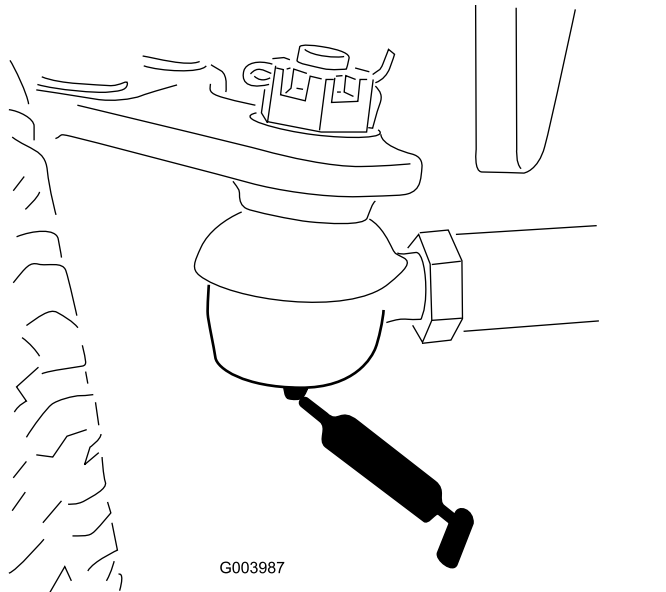

Figure 80
- Rear axle tie rod (2) (Figure 80)